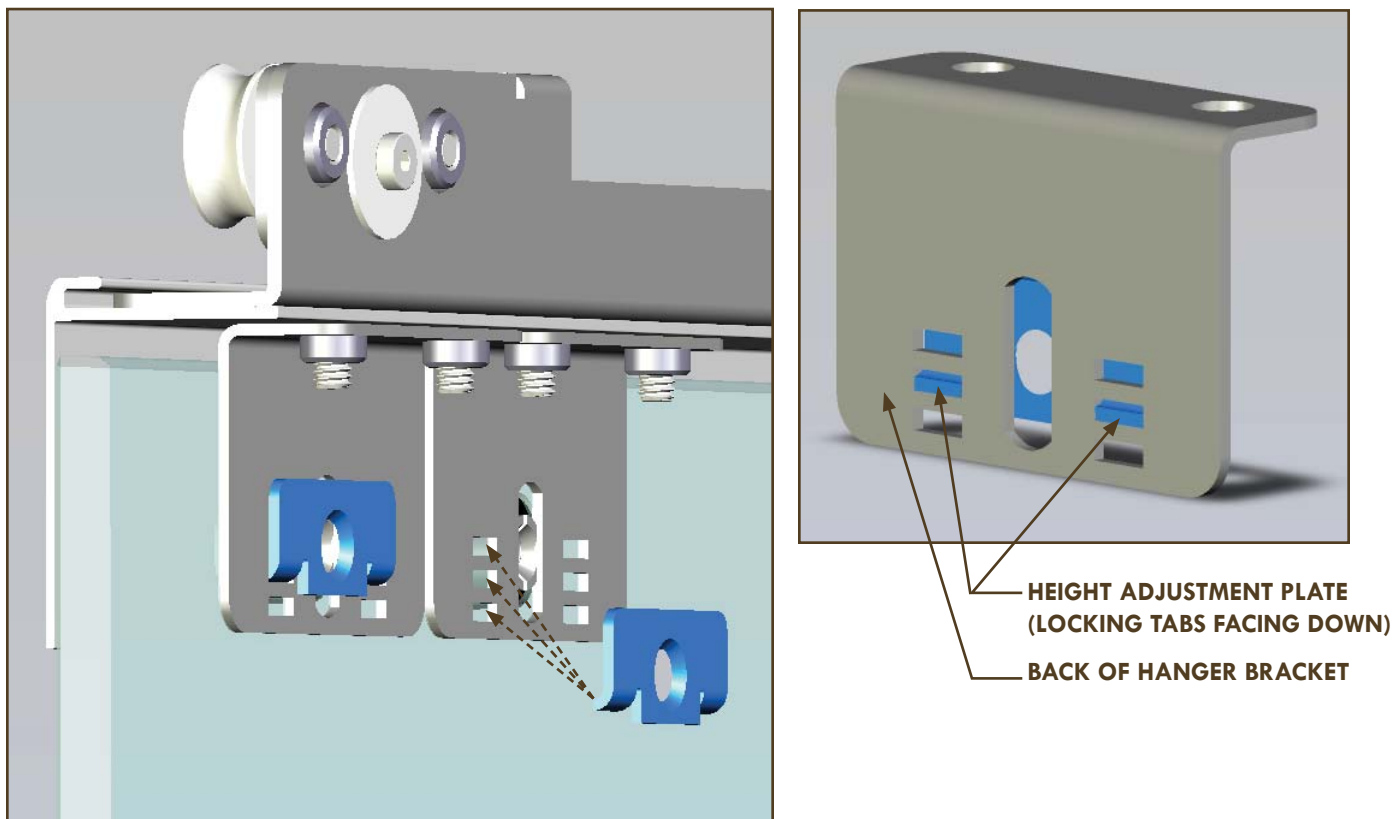

Figure 8. Height Adjustment Plate highlighted in blue.
STEP 6. Choose the nearest height setting available by selecting the closest set of slots in the Hanger Brackets. The height locking tabs of the Height Adjustment Plate should be facing down. See Figure 8 below.